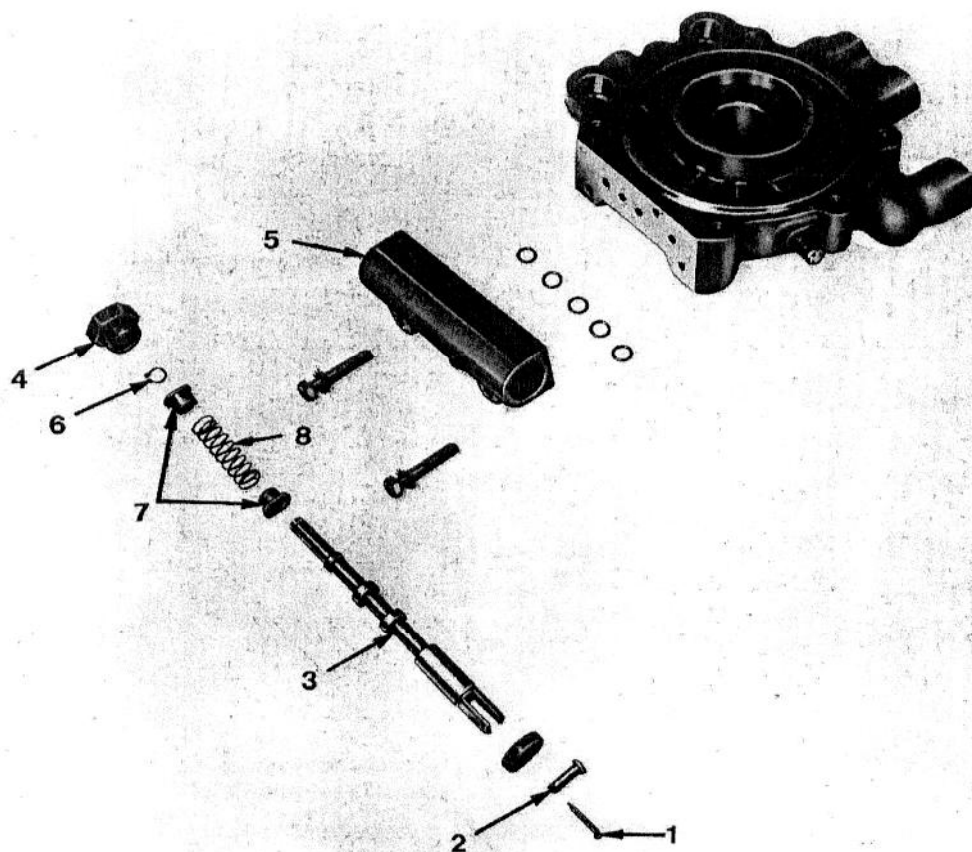

FIG. 8
2. (Fig. 8) Withdraw the split pin (1) and the clevis pin (2) from the valve spool (3).
3. Unscrew the valve end cap (4) and push the spool out of the control valve body (5).
4. Remove the circlip (6) and slide the two spring guides (7) and spring (8) off the spool.